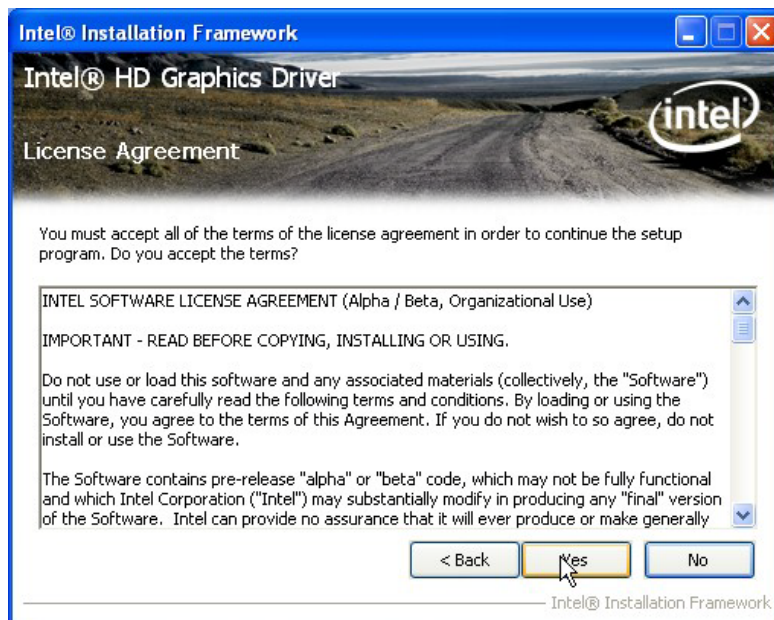

Figure 6-10: Graphics Driver License Agreement
Step 6: The **License Agreement** in **Figure 6-10** appears.